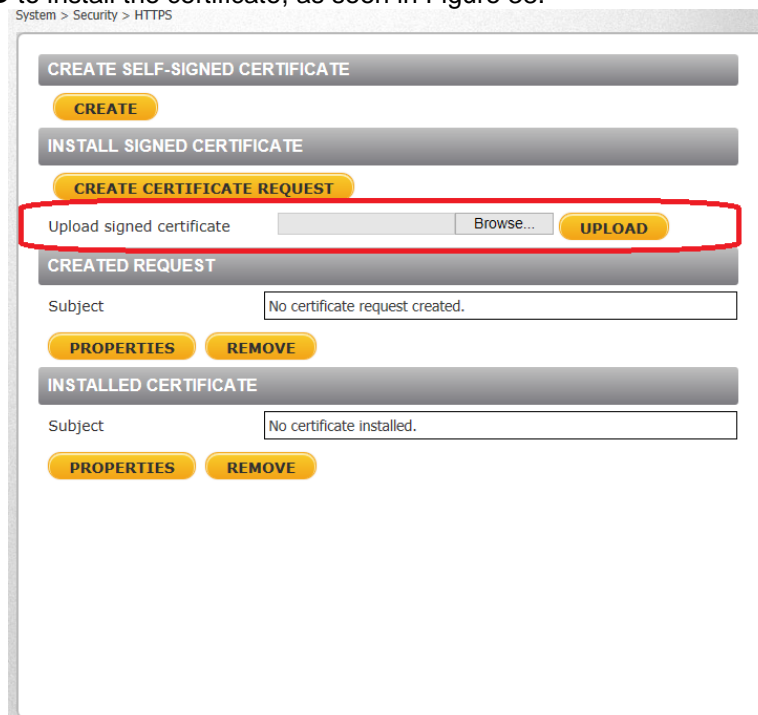

Figure 38: HTTPS Screen – Upload Signed Certificate
- Click **UPLOAD** to install the certificate, as seen in Figure 38.